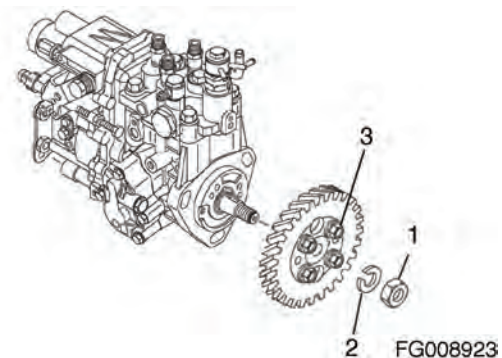

Figure 170
4. Do not remove the fuel injection pump drive gear unless absolutely necessary to avoid damage to the gear or pump. Do not loosen or remove the four bolts (3, Figure 170) retaining the pump drive gear to the hub. Only remove the nut (1, Figure 170) and washer (2, Figure 170), leaving the hub attached to the gear. Remove the pump drive gear and hub as an assembly using a gear puller.